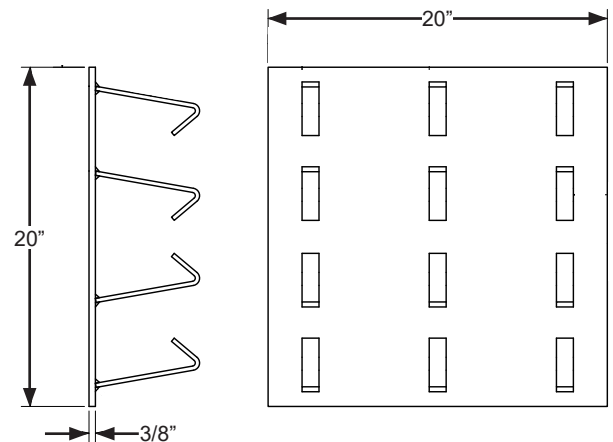

Figure 9
- **Wall Embed Method (Part #7953-0119, Figure 9)**